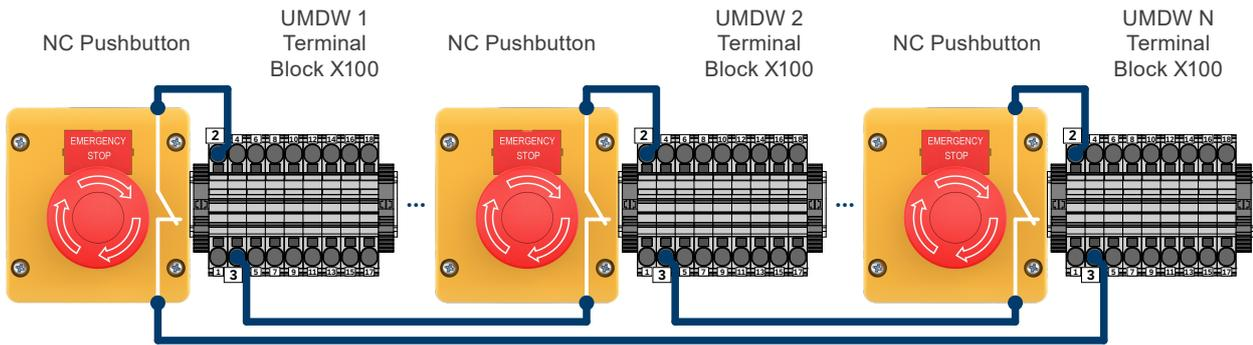

Figure 5.12: Emergency pushbutton connection in parallel system
In systems with racks operating in parallel, the normally closed (NC) emergency pushbutton must be connected to terminal block X100, pins 2 and 3 of each rack. To perform this connection, remove the jumper between pins 2 and 3 on all racks and connect the NC pushbutton in parallel across all these points, ensuring that the emergency signal is properly recognized by the entire system. The wiring follows the same guidelines used for individual EPO pushbuttons and is illustrated in Figure 5.12 on page 5-10.
The external maintenance *bypass* connection is performed on terminal block X100, pins 4 and 5. For installation, the bypass device terminals must be wired as shown in Figure 5.12 on page 5-10.